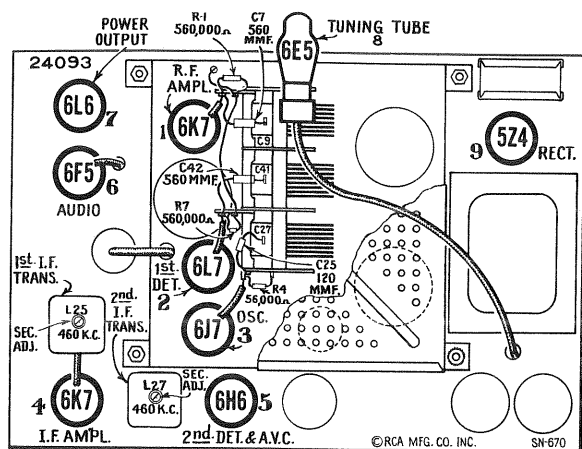

Figure 1—Radiotron and I-F Trimmer Locations
- (c) Adjust the two magnetite core screws L27 and L26 (see figures 1 and 8) of the second i-f transformer (one on top and one on bottom) to produce maximum vertical deflection of the oscillographic image. This adjustment places the transformer in exact resonance with the 460-kc signal.